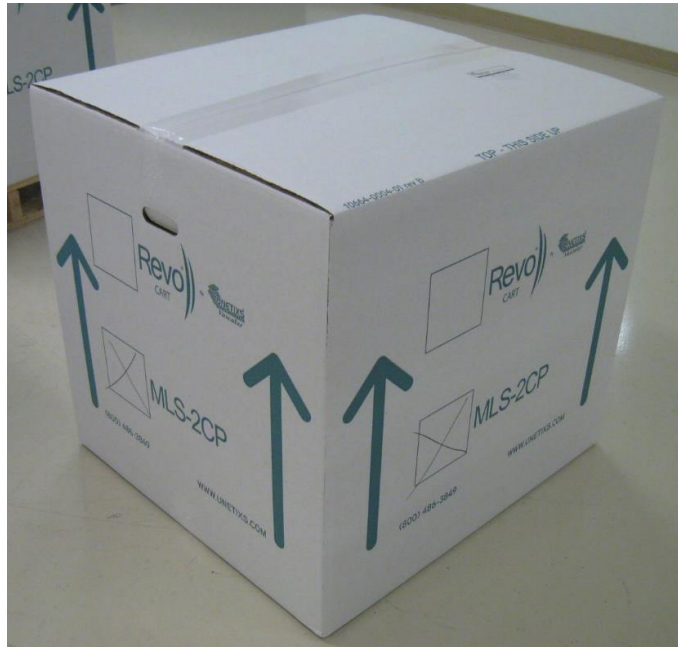

Figure 63
- 3.4.22. Place 2CP/Revo Cart Box Set Top Shelf Box on top of the cart's base assembly inside the 2CP/Revo Cart Box Set Outer Box (see Figure 62). Seal the box (see Figure 63).